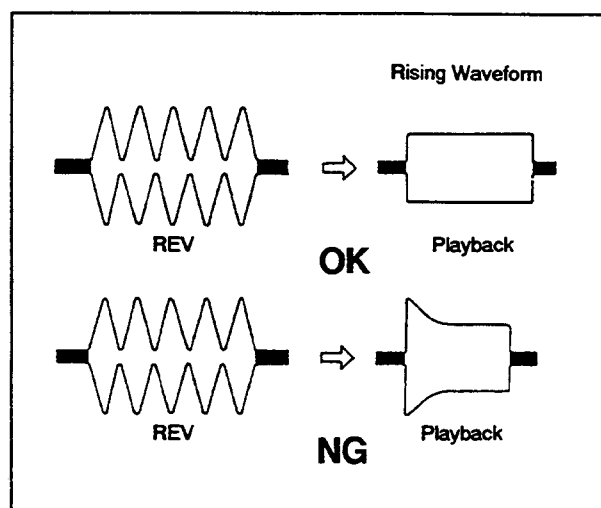

Fig. 40
- 6) If the waveform is not normal (Fig. 40), turn the upper flange ❸ of the No. 2 guide (TG-2) ❶ 90° counterclockwise and repeat step 5.